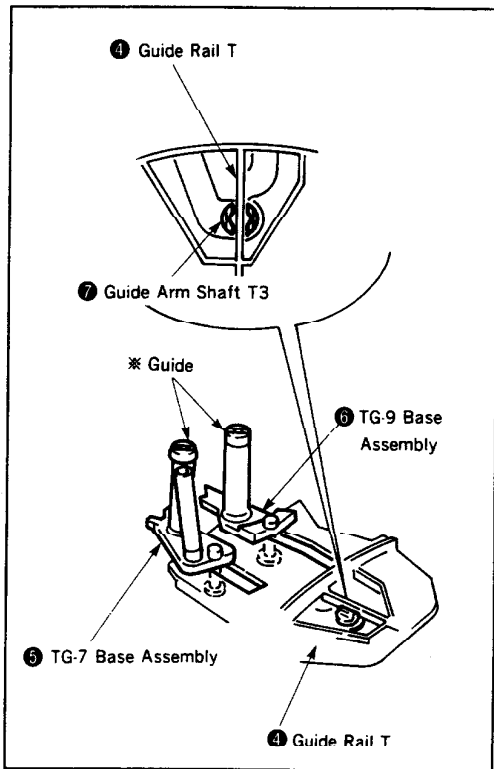
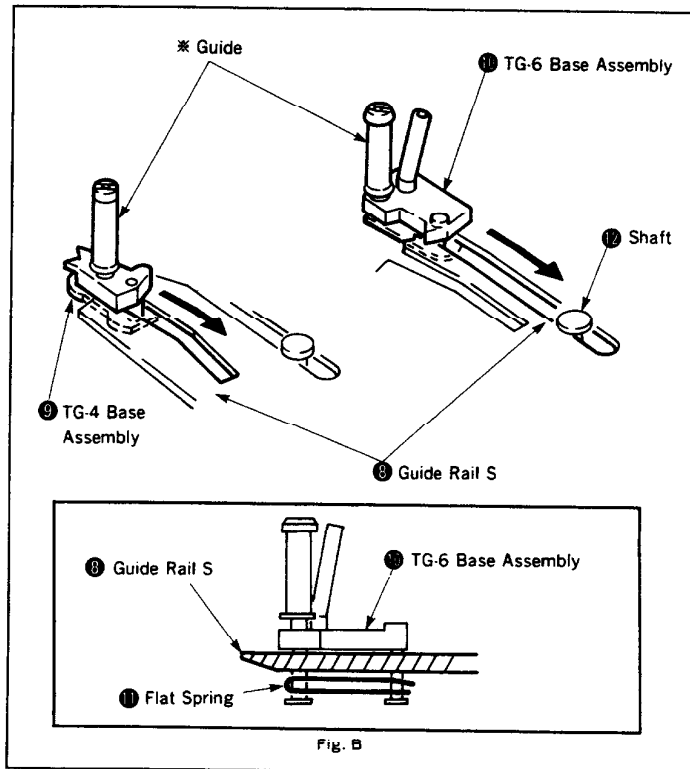

Fig. 25
Fig. 26
Note : Do not touch the guide ※. (Fig. 25 and Fig. 26)
- 2) Fit the TG-7 base assembly ⑤ and TG-9 base assembly ⑥ in the grooves of the guide rail T ④. (Fig. 25)
- 3) Put the shaft ③ flange in the long groove of the guide rail S ⑧, and fit the TG-4 base assembly ⑨ and TG-6 base assembly ⑩ into the right and left grooves of the guide rail S ⑧ respectively.
When this is done, see to it that the flat spring of the TG-6 base assembly ⑩ is located below the guide rail S ⑧ as shown in Fig. B. (Fig.26)